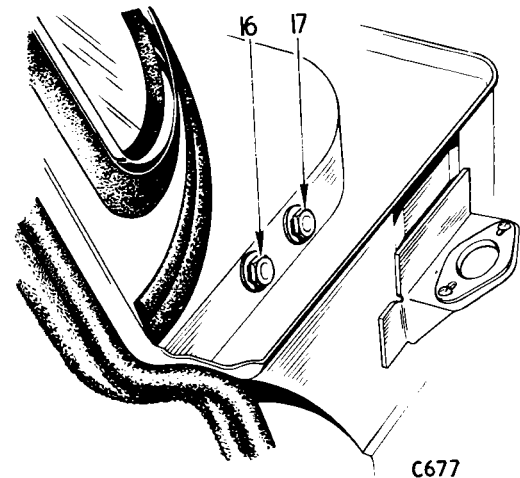

Fig. 60. Screen pillar upper fixing
4. Slacken the bolts (16) and (17) which are accessible when the door is opened (Fig. 60).
5. With the aid of a second operator, lift out the windscreen frame assembly (11). Remove the rubber weatherstrip (23) from the back of the windscreen assembly.